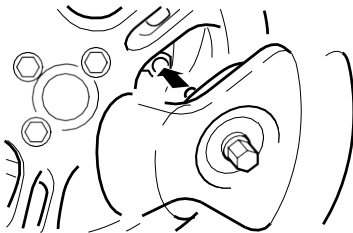

Fig. 5
- Line up the locking bolts and assemble with the receiver. (Fig. 5)